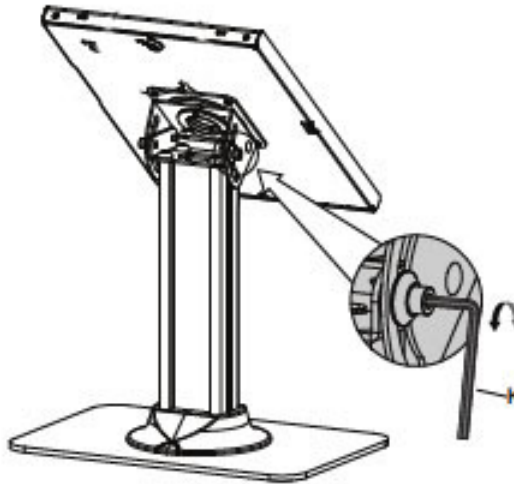

Figure 9
1. Adjust the tightness of tilt angle using **4mm Allen Key (K)**, see **Figure 9**.